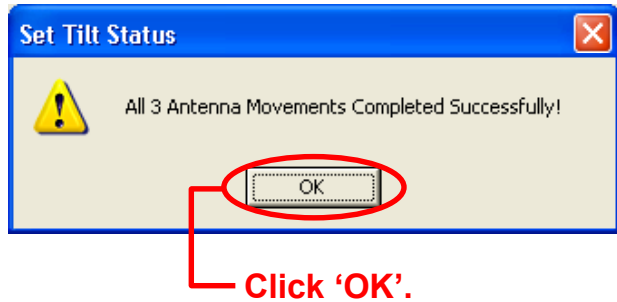

Figure 7-4. Movement Complete.
9. You will be notified when all antennas have successfully reached the new tilt angle. Click 'OK' (Figure 7-4).